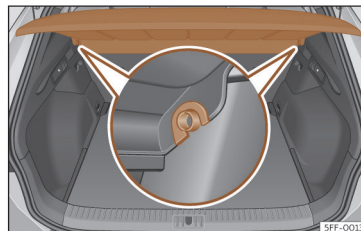

Fig. 114 In the luggage compartment: removing and fitting the shelf.
- Remove the rear shelf from the side supports >>> **Fig. 114** by pulling it upwards and then take it out.
- Insert the cover horizontally so that the “recess” fits onto the axis of the supports >>> **Fig. 114** and press down until it engages.